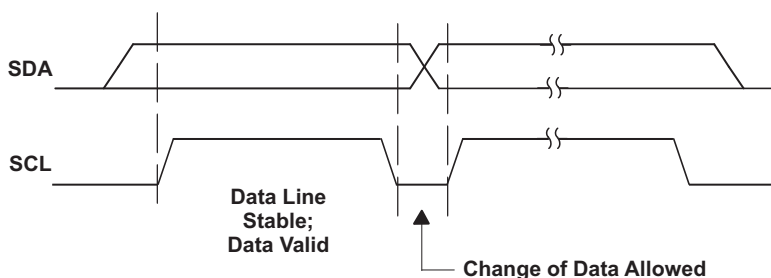
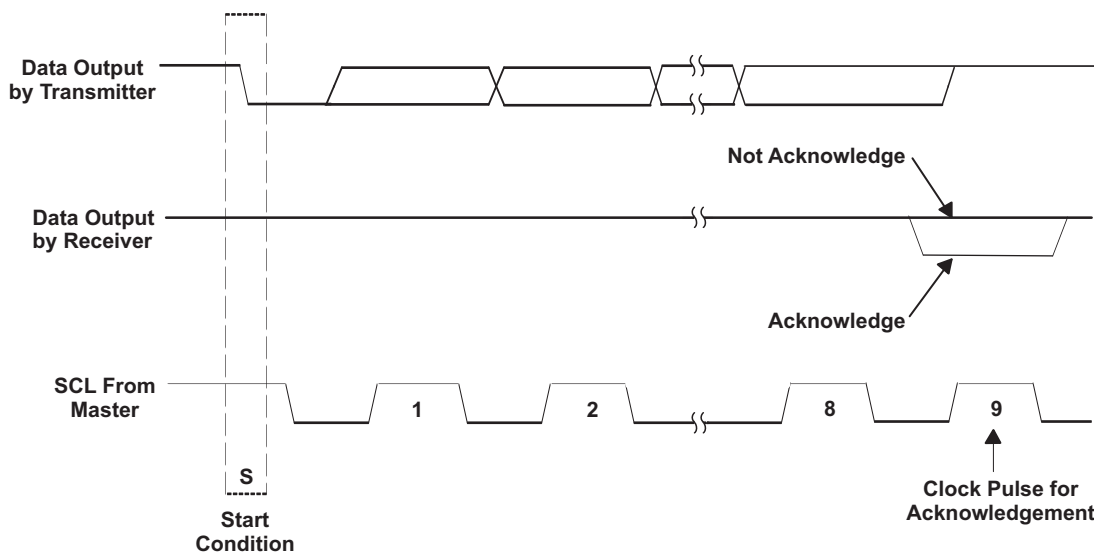

Figure 18. I2C Bit Transfer
Figure 19. I2C Acknowledge
- The master then generates the SCL pulses and transmits the 7-bit address and the read/write direction bit R/W on the SDA line. During all transmissions, the master ensures that data is valid. A valid data condition requires the SDA line to be stable during the entire high period of the clock pulse (see Figure 18). All devices recognize the address sent by the master and compare it to their internal fixed addresses. Only the slave device with a matching address generates an acknowledge (see Figure 19) by pulling the SDA line low during the entire high period of the ninth SCL cycle. On detecting this acknowledge, the master knows that a communication link with a slave has been established.